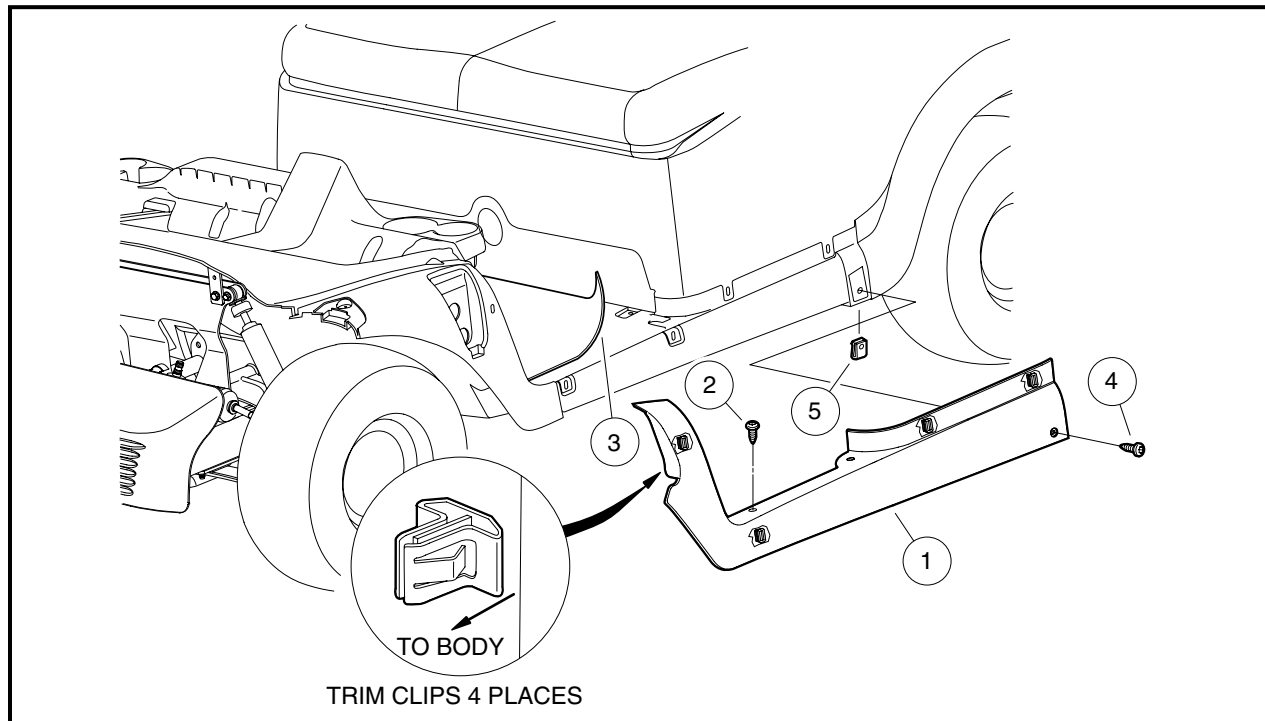

Figure 4-3 Floor Mat Retainer
The floor mat retainers secure the floor mat to the vehicle and also provide a clean appearance to the side of the vehicle. Normally, if only the floor mat (3) needs to be removed, the screws (2) can be loosened slightly to allow the floor mat to be slid from beneath the retainers (1) (Figure 4-3, Page 4-6).
1. Remove screws (2) from top of retainer (1) (Figure 4-3, Page 4-6).
2. Remove screw (4) from lower rear corner of retainer. This screw threads into a J-clip (5) that is attached to the rear underbody.
1. Position the retainer on the vehicle and press firmly to engage the trim clips to the vehicle (Figure 4-3, Page 4-6).
2. Install one screw (4) at the lower rear of the retainer. Tighten screw to 1.8 ft-lb (2.5 N·m).
3. Ensure the floor mat is properly positioned beneath the top flange of the retainer and install two screws (2). Tighten screws to 4.4 ft-lb (6.0 N·m).